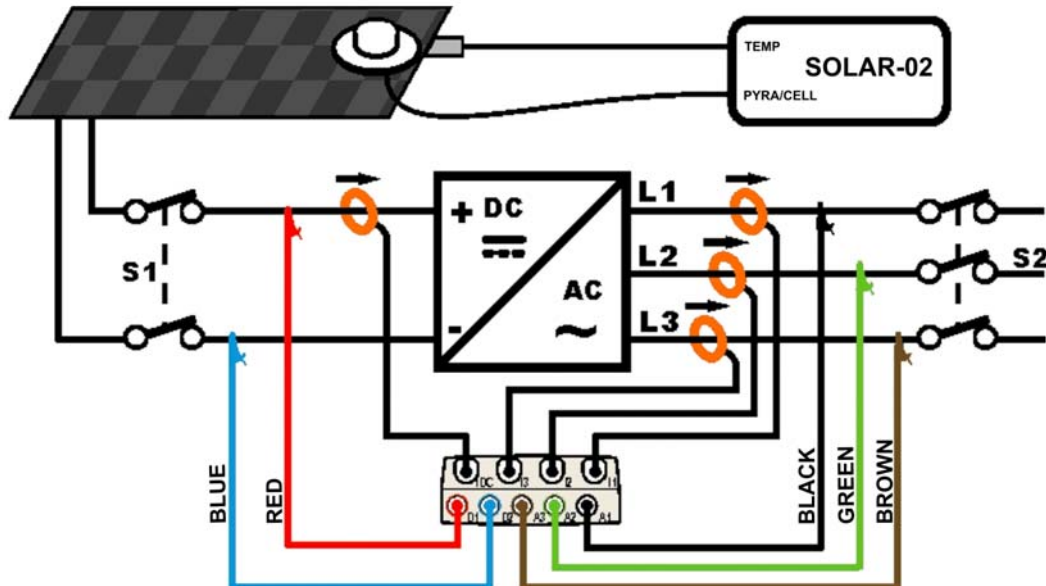

Fig. 162: Connecting the instrument to a PV-3 system with SOLAR-02
3. Connect inputs **D1** and **D2** to the positive and negative string output pole respectively. Connect inputs **A1**, **A2** and **A3** to the phase conductors, respecting the colors as shown in Fig. 162
4. Connect the DC current clamp to the positive string output conductor **by respecting the direction of the arrow** on the clamp itself as indicated in Fig. 162. **Check the status of internal batteries of the DC clamp after the connection to the installation**
5. Connect the AC clamps to the Phase L1, L2, L3 conductors **by respecting the direction of the arrow** on the clamps as indicated in Fig. 162. Connect the output of the clamps to the **I1**, **I2**, **I3** input of the instrument respectively